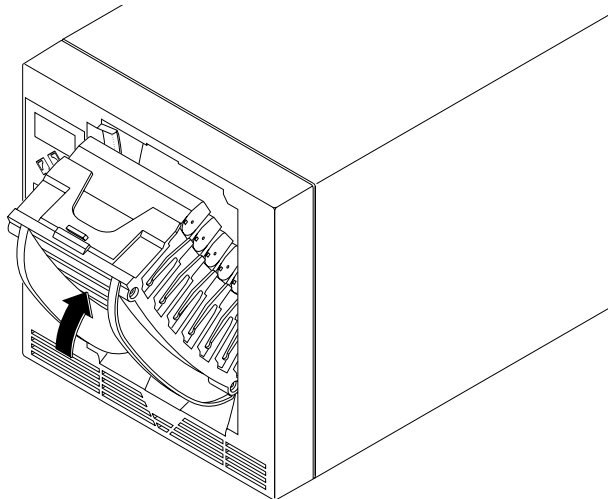

Figure 4-2 Installing the cartridge magazine
1. Position the magazine so the bottom mounting guide on the magazine (near cartridge slot 1) aligns with the slot in the bottom of the opening in the autoloader, as shown in **Figure 4-2**.